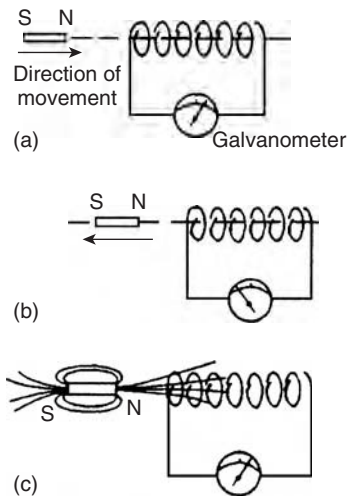

Figure 9.1
Figure 9.1(a) shows a coil of wire connected to a centre-zero galvanometer, which is a sensitive ammeter with the zero-current position in the centre of the scale.
- (a) When the magnet is moved at constant speed towards the coil (Fig. 9.1(a)), a deflection is noted
- When the magnet is moved at the same speed as in (a) but away from the coil the same deflection is noted but is in the opposite direction (see Fig. 9.1(b)).
Figure 9.1(c) shows the magnetic field associated with the magnet. As the magnet is moved towards the coil, the magnetic flux of the magnet moves across, or cuts, the coil. **It is the relative movement of the magnetic flux and the coil that causes an e.m.f. and thus current, to be induced in the coil.** This effect is known as electromagnetic induction. The laws of electromagnetic induction stated in section 9.2 evolved from experiments such as those described above.